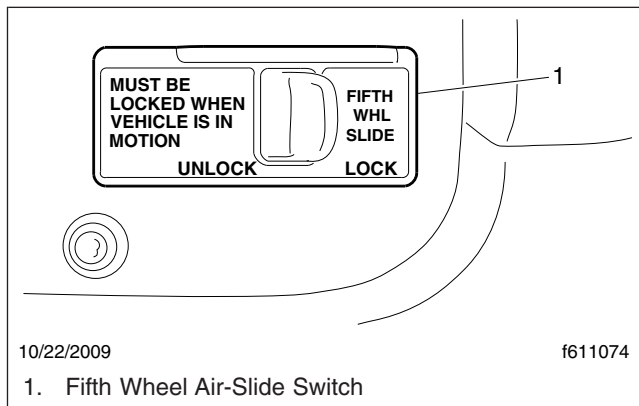
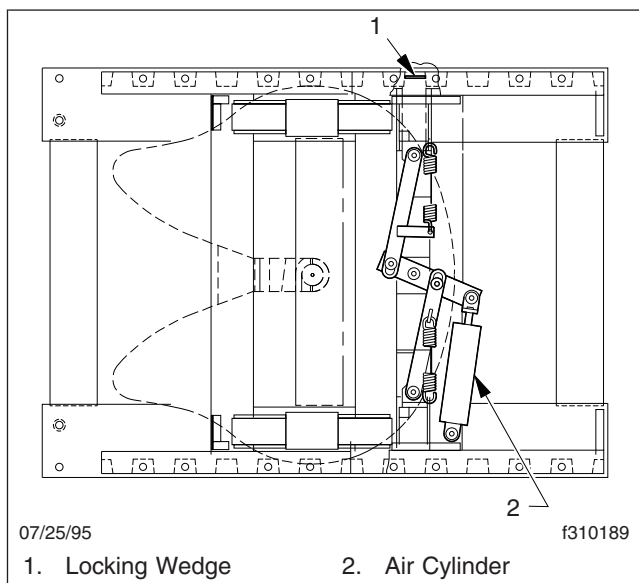

Fig. 17.14, Air-Slide Switch
Fig. 17.15, Air-Operated Sliding Fifth Wheel (Fontaine shown)
The slide feature may be operated with an air switch mounted in the dash, that operates an air cylinder that locks and unlocks the slide. See Fig. 17.14.
1. Set the air-slide switch (Fig. 17.14) to UNLOCK. Ensure the locking plungers have released. See Fig. 17.15.